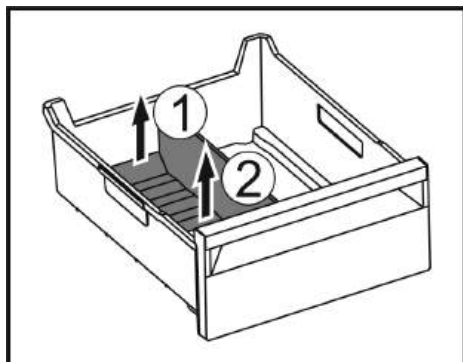

Fig. 141
- ▶ Lift the rear part of the ice compartment divider. Fig. 141 (1)
- ▶ Remove the ice compartment divider upwards. Fig. 141 (2)